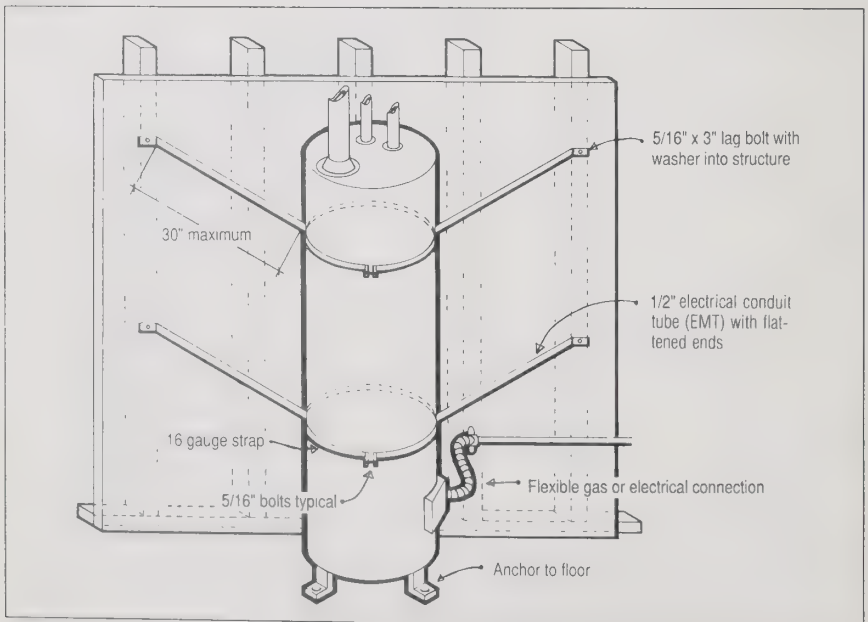

Figure 9: Securing water heaters.
H. Unsecured Water Heater—Water heaters should be braced to the wall studs to prevent overturning. When a water heater is located near a wall, it can be strapped to the studs by using electrical conduit tubing. The tubing is connected to the “plumber’s tape” straps that encircle the water heater (see Figure 9).